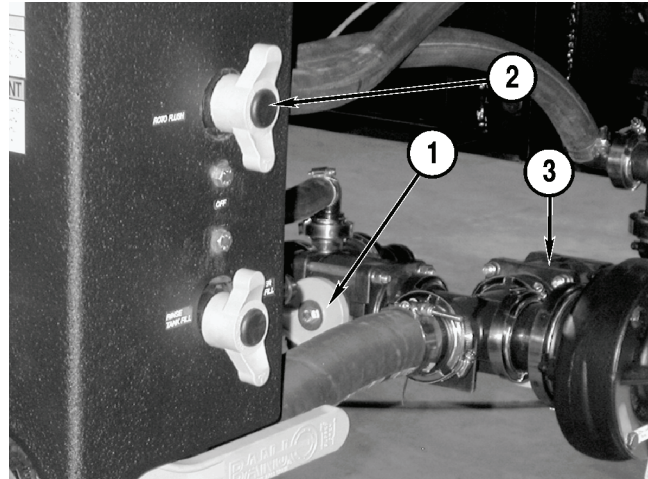

Figure 4-27
5. Close the rinse tank valve (Figure 4-27, 1).
6. Set the flush/agitation knob (Figure 4-27, 2), shown in the CLOSED position, to AGITATION.
7. Open the product valve (Figure 4-27, 3).